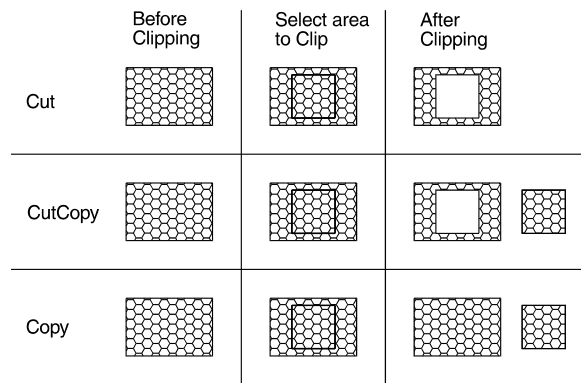

Figure 12.17: Different results from cutting, cutting and copying, and copying
6. Toggle Boundary on to leave the outline of the boundary in your drawing. (See "After Clipping" for Cut and CutCopy in Figure 12.17 for an example of a boundary outline.)